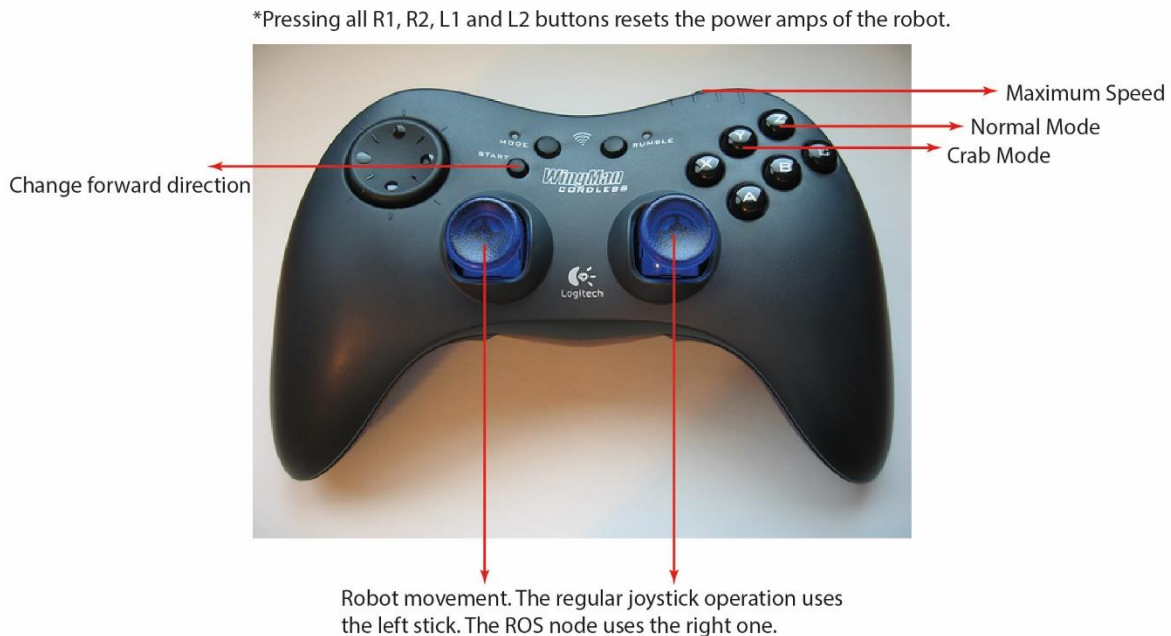

Figure 1. Joystick functionalities.
- Now press z button on the joystick and the wheels should enter in normal driving position. A detailed list of button functionalities is provided in Figure 1.